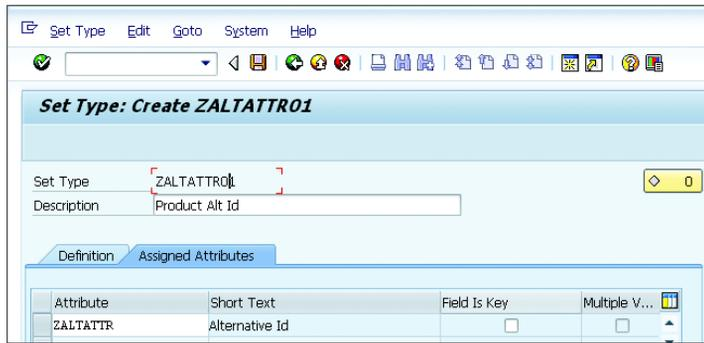

Figure 4.22 Assigning Attribute to the Set Type
3. Assign the attribute to the set type (see Figure 4.22).